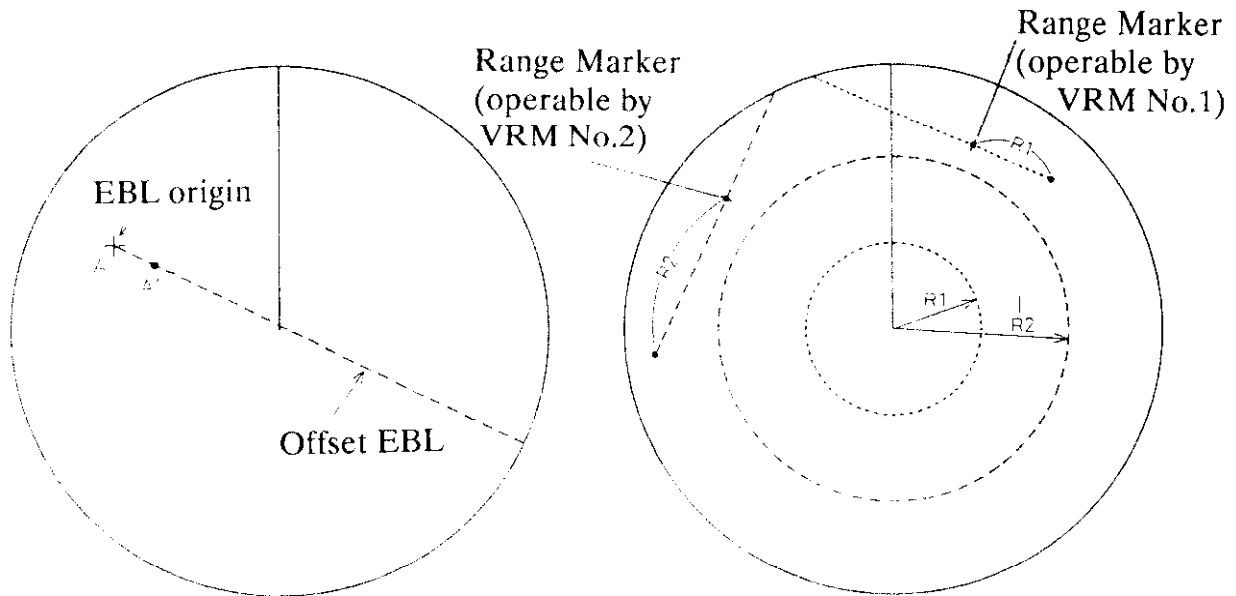

Fig. 10 Using the Offset EBL
4. To measure the range between two targets, press the VRM ON touchpad to display the VRM (No.1 or No.2) associated with the active EBL. The range marker (see Fig. 10) is superimposed on the EBL. Operate the VRM rotary knob control; the range to the other target is shown on the VRM indication at the lower right-hand side of the screen.